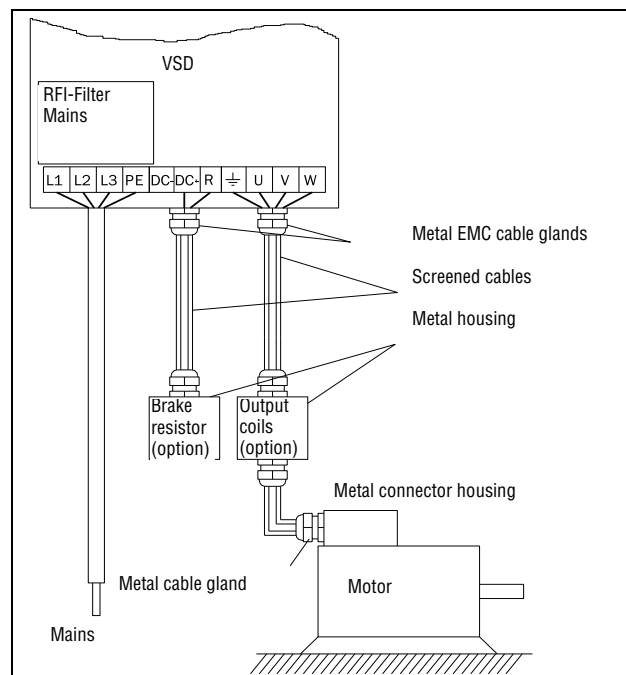

Fig. 20 Connection of mains and motor cables
7. Connect the mains cables as in Fig. 20. The VSD has, as standard, a built-in RFI mains filter that complies with category C3 which suits the Second Environment standard.
8. Connect the motor cables as in Fig. 20. To comply with the EMC Directive you have to use screened cables and the motor cable screen has to be connected on both sides: to the housing of the motor and the housing of the VSD.